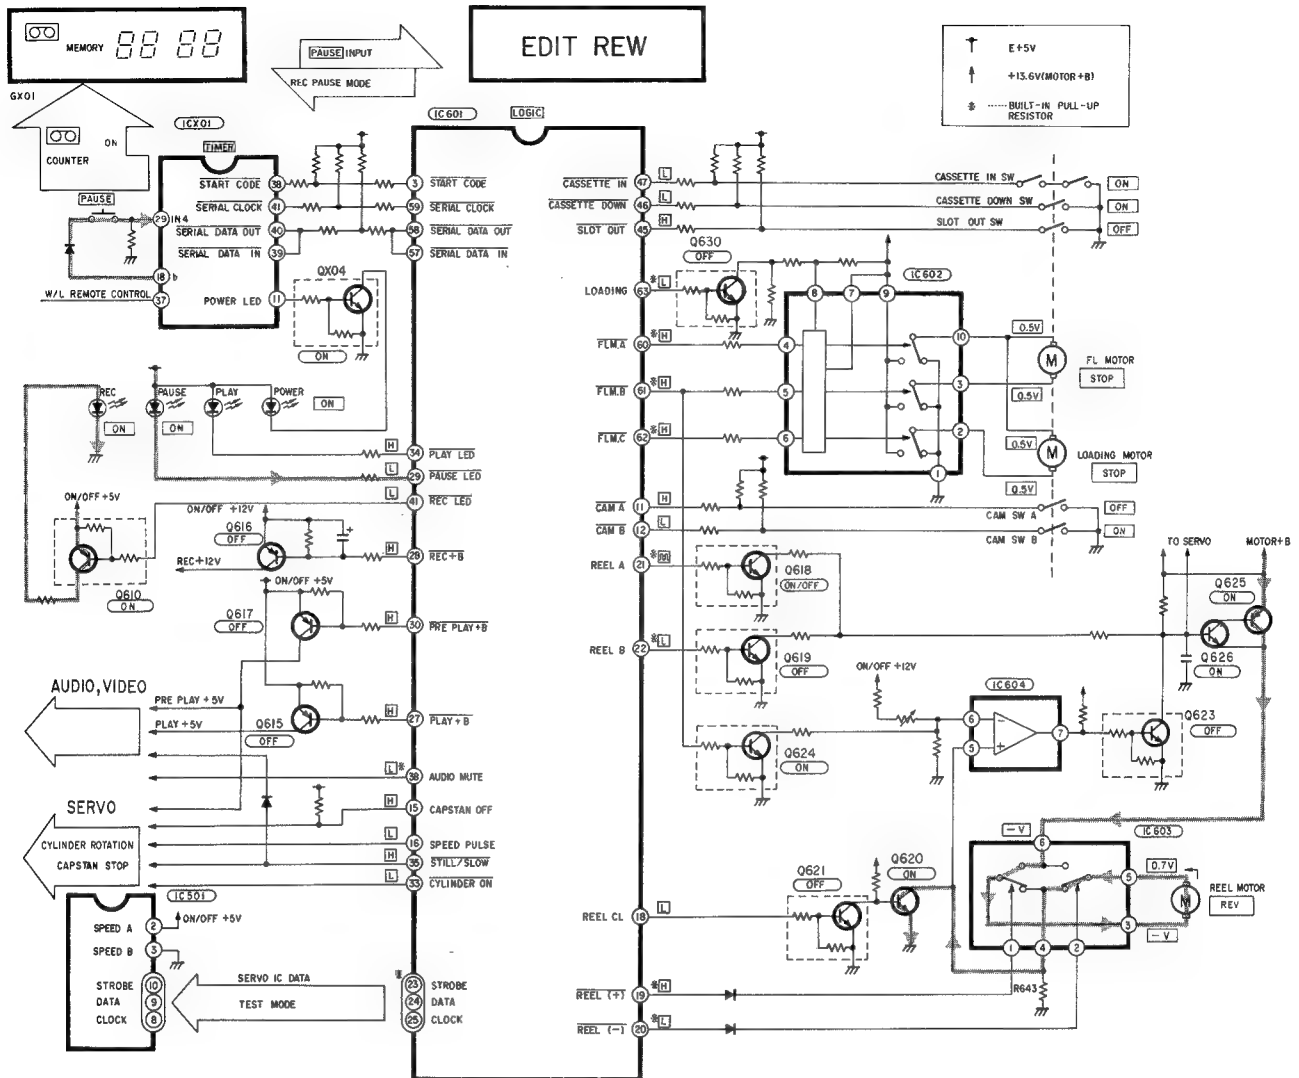

Fig. 3-5-2
- (1) When the PAUSE or STOP button is pushed during recording, IC601 is set to a record pause mode or the stop mode.
- (2) The loading motor rotates in forward direction and the cam moves from the position V to the position VI.
- (3) Each pin of IC601 develops output as shown in Fig. 3-5-2 and the record LED and pause LED light up. Pin (28) develops "H" level output and Q616 turns OFF. Then the audio and video signals are muted.
- (4) The reel motor is rotated reversely by IC601 and IC603 (17 - 19). Tape is wound by a specified length equivalent to 100 CTL pulses and then the
- (5) Next, the reel motor rotates in forward direction and winds the tape for a specified length and then the motor stops (31 - 33). At the same time, the loading motor rotates in reverse direction, and the cam moves from the position VII to the position V.
- (6) Furthermore, loading motor rotates in forward direction and the cam moves from the position V to the position VII.
- (7) At the same time the reel motor rotates in forward direction and then the reel motor stops.